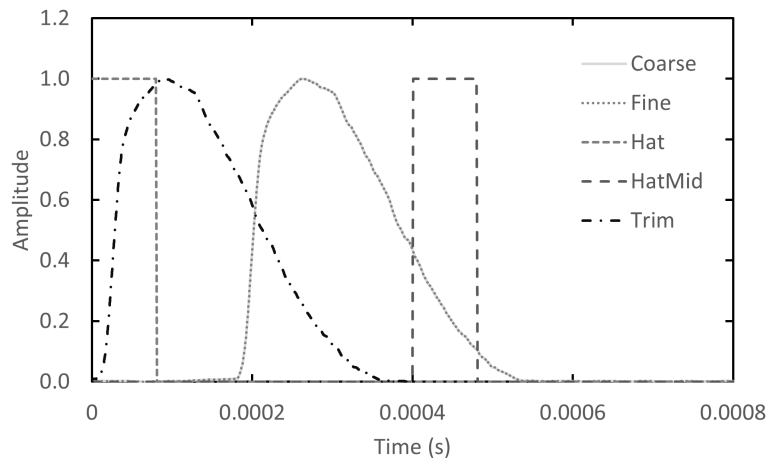
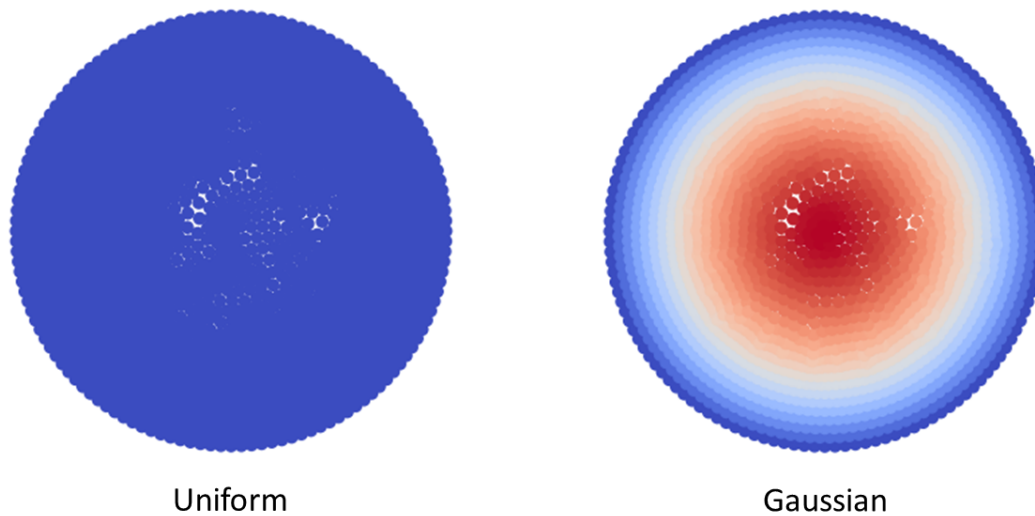

Fig. 6.7: Plot of various laser temporal profiles available.
Fig. 6.8: Plot of laser spatial profiles available.
Energy dictates the energy (J) that the laser will provide to the sample. The temporal profile of the laser is defined by *LaserT*, where the different profiles can be found in Scripts/Experiments/LFA/Laser, see Fig. 6.7. ‘Coarse’, ‘Fine’ and ‘Trim’ are versions of experimentally measured data whereas ‘Hat’ and ‘HatMid’ are idealised profiles. The spatial profile, *LaserS*, can be either ‘Uniform’ or ‘Gaussian’, see Fig. 6.8.